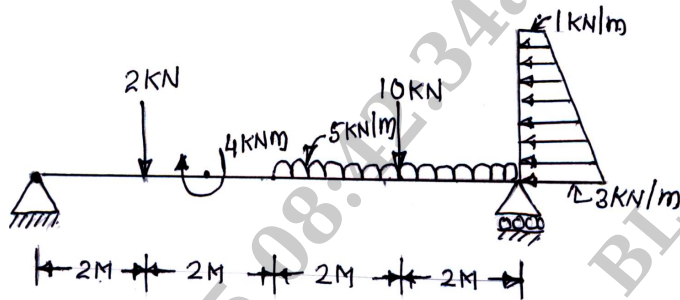

Fig.Q.5(c)
- c. Find the reactions at support A and B for the beam as shown in Fig.Q.5(c). (08 Marks)